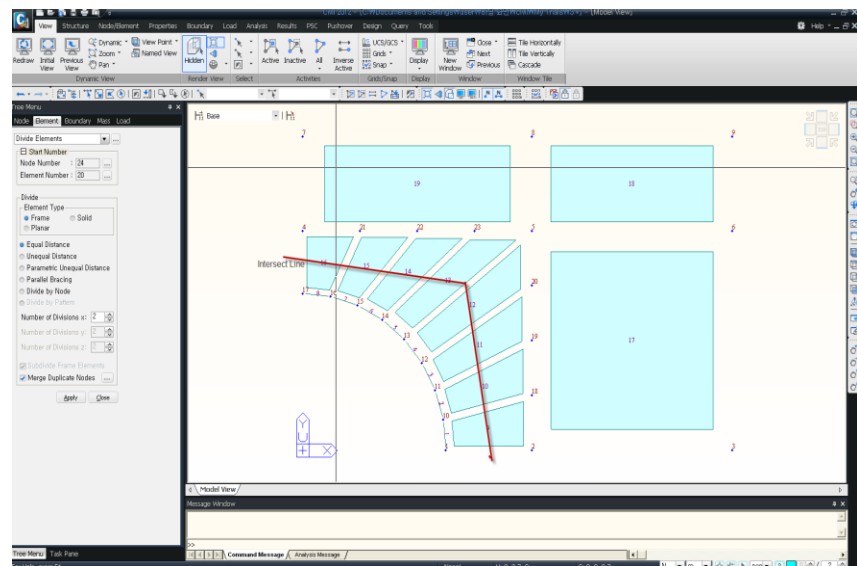

Figure 3.6 Generation of the Remaining Plate Elements of the Web
2. Use **Select Intersect** in **View > Select > Intersect Line** from the Main Menu to select the plate elements **9 to 16** in area ④ (Fig.3.6) ⚠.
8. Click  **Select Single** in the Icon Menu to select element **17** of area ⑧.
11. Select elements **18** and **19** in areas ⑨ and ⑩ respectively.